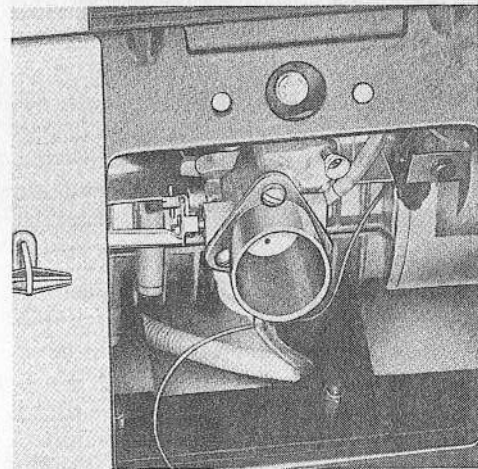

Figure 21
Open the front console panel by pressing on the release button situated at the top center of the panel. There are (3) adjuster screws on the carburetor body: the right hand side screw controls the idle speed of the engine while the (2) left hand side screws regulate the amount of fuel fed to the engine at idle speed and the richness of the fuel mixture needed when the engine runs at high speed. See Fig. 21.